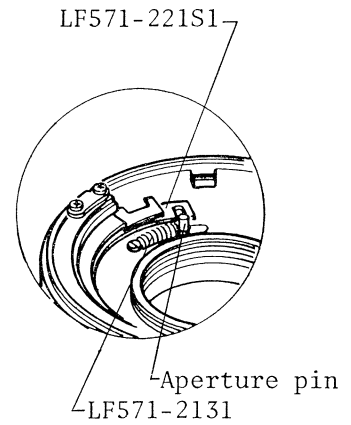

Fig.22
- Note: 1) After fixing ① shutter into the helicoid, set LF571-2131 spring to aperture pin on the shutter and then couple the pin with LF571-221S1 aperture lever as shown in Fig.22
- 2) Pass through ③ X synch leadwires from outer side of LF571-4381 spring. Connect the black leadwire with X-terminal and the blue leadwire with 4PB1.7x22BNi screw on A-M ring. Arrange the leadwires to prevent the short.